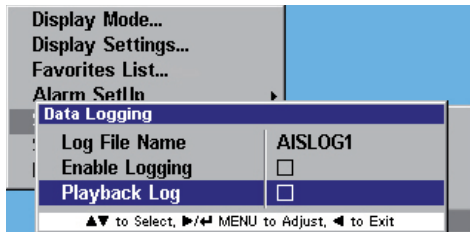

Figure 6.18 – Logging menu
**Disabling** - From the System Setup menu highlight “Data Logging” and select it. A window opens displaying the options as shown previously in figure 6.18.
From the System Setup menu highlight “Data Logging” and select it. A window opens displaying the options as shown previously in figure 6.18.